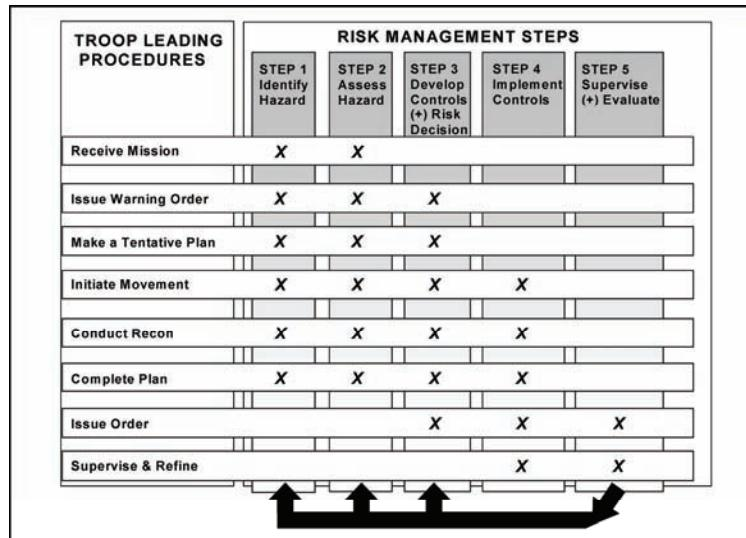

Figure 850-001-4001-1. TLP and CRM relationship
1. Describe the relationship between the five steps of CRM and the eight steps of TLP. See figure 850-001-4001-1.